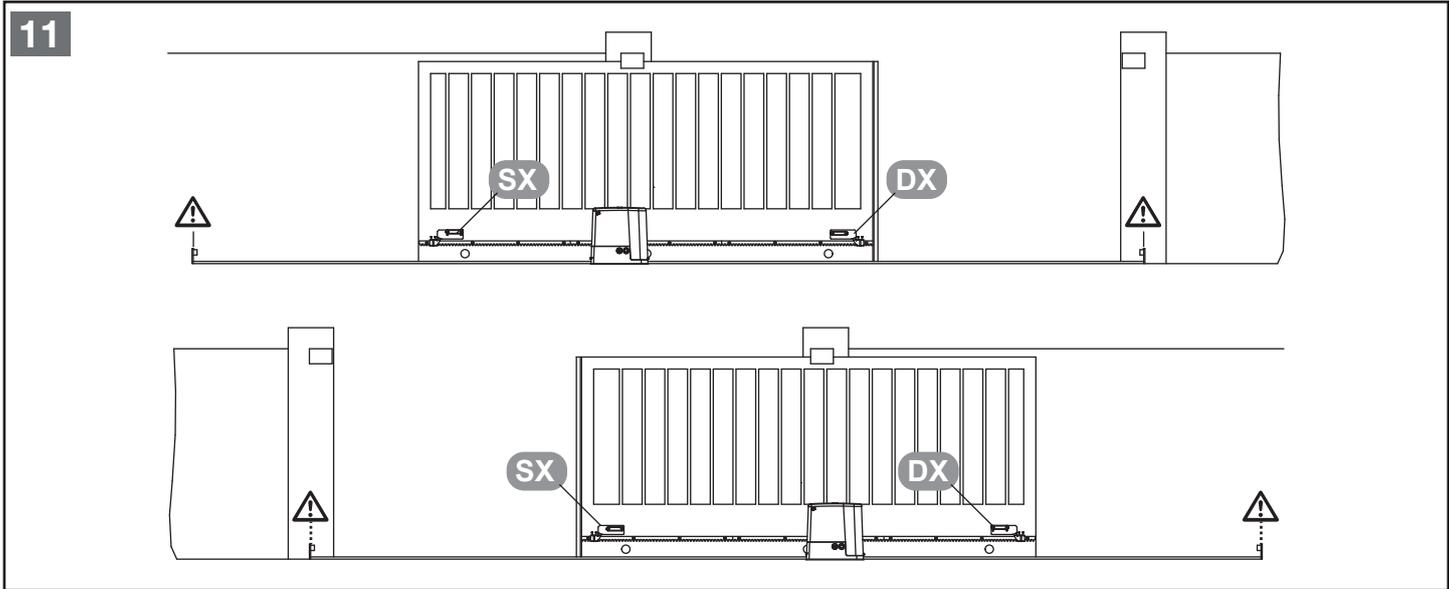

Figure 11 End positions
Firstly, fix the two magnet holders in the corresponding end positions on the gear rack using the screws supplied. Then install the magnets in the holders, ensuring that the red magnet (SX) is installed on the left and the blue magnet (DX) is installed on the right (see “**Figure 11 End positions**”). Determine the correct distance to the two reed contacts. To do this, unlock the opener and slide the gate into the gate open and gate closed end positions.